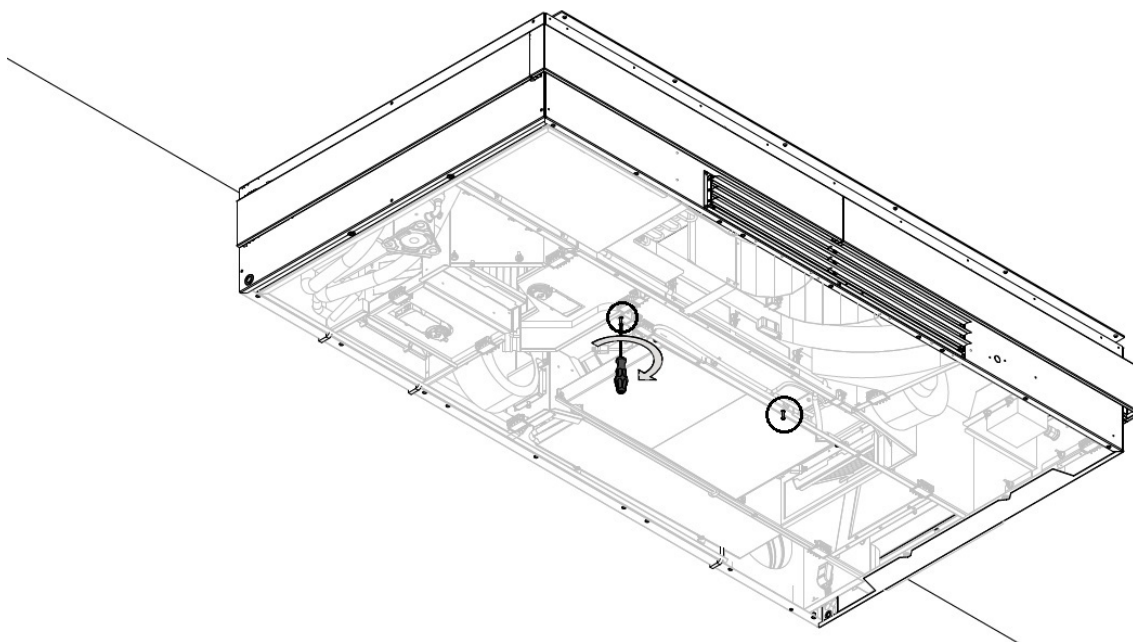

Figure 29: Screw two long bolts onto the middle frame
1. Screw two of the long bolts into the middle frame, see Figure 29 and Figure 30 below. Note that you must leave at least 10 mm. between the frame and the bolt head for the keyhole on the steel plate to function correctly.